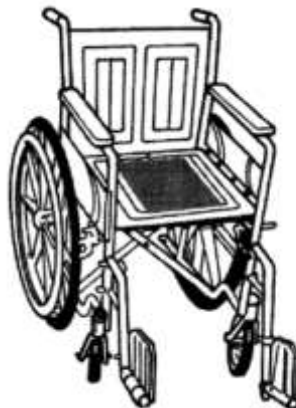

Figure 1 – Posey® Chair Alarm Sensor Pad Positioning
4. Place sensor pad FLAT across width of seat, labeled side UP (refer to Figure 1). NEVER roll, fold, or crease sensor pad. Make sure sensor pad cord is either to the back or side of seat and is not folded back under the sensor pad.